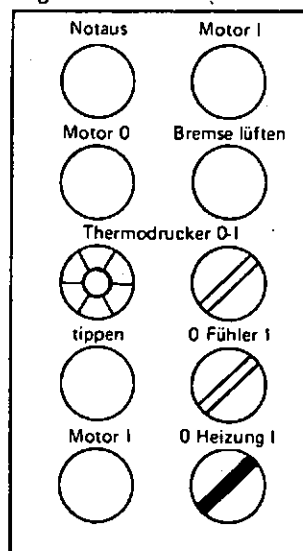

Fig. 110
5. Set the „Heater“ select switch to „I“ for machines which are equipped with a heated wire cutter (Figure 110).